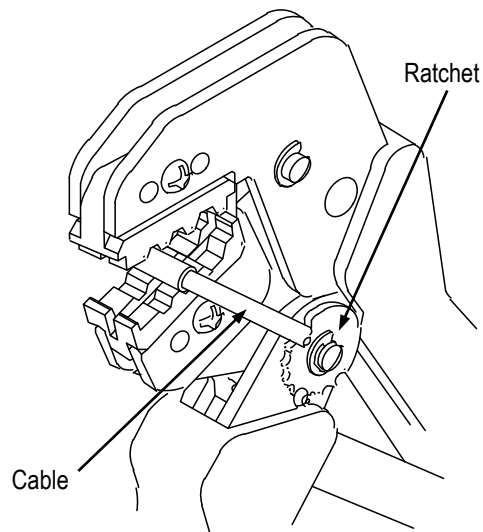

Figure 3
**4. CRIMPING PROCEDURE** (Figure 3)
2. Place connector in the appropriate crimping section of dies as shown in Figure 3.